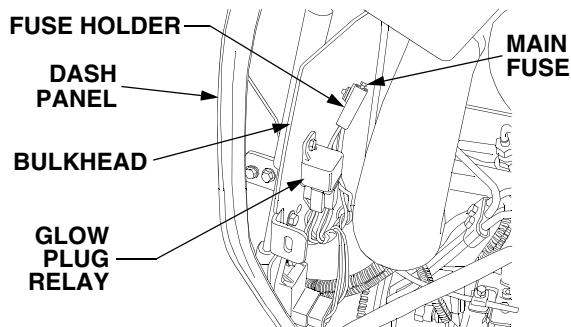

Figure 38
- Raise tractor hood and remove right side panel and locate the fuse holder on the front/right side of the bulkhead. Refer to Figure 38.